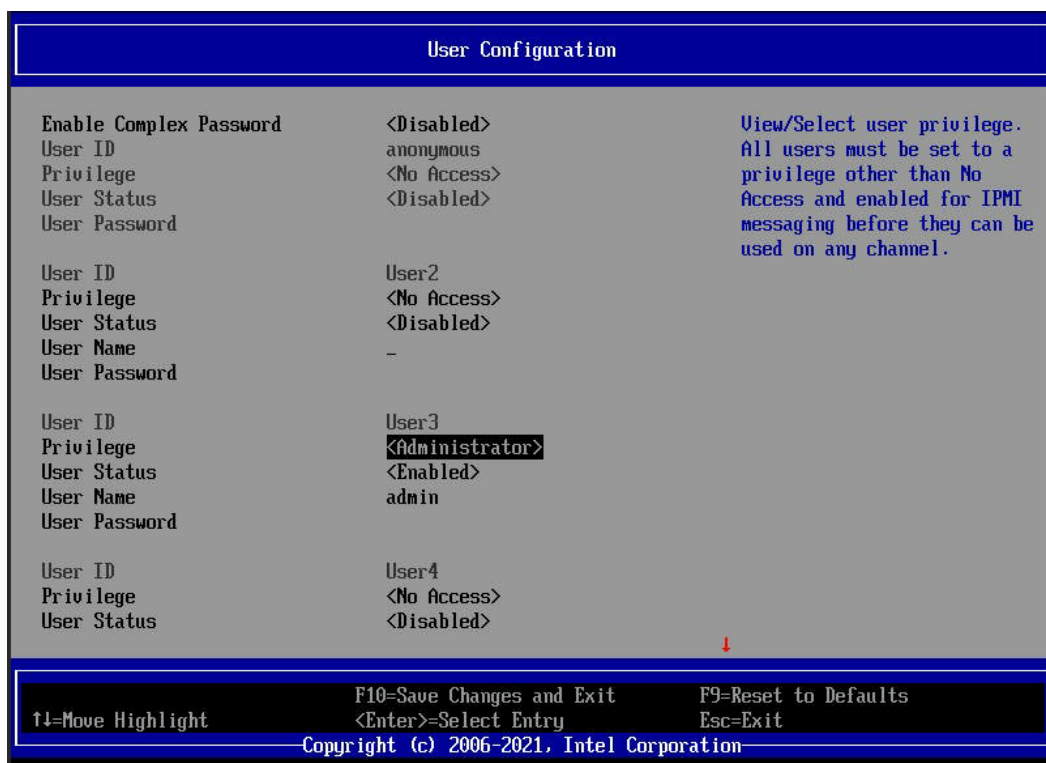

Figure 59. BIOS Setup User Configuration Screen
5. Select **BMC User Configuration** to enter the User Configuration screen (Figure 59).